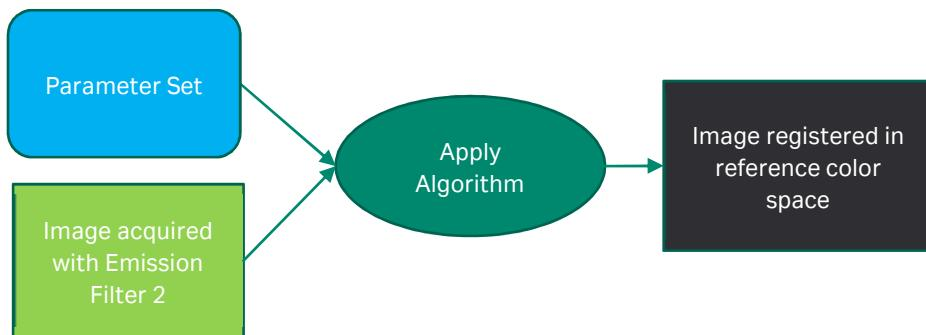

Figure 2 Apply Algorithm
**Apply Method:** A second method is exposed to use the parameter set generated to correct an image acquired with a known emission filter back to the reference color space as shown in Figure 2.